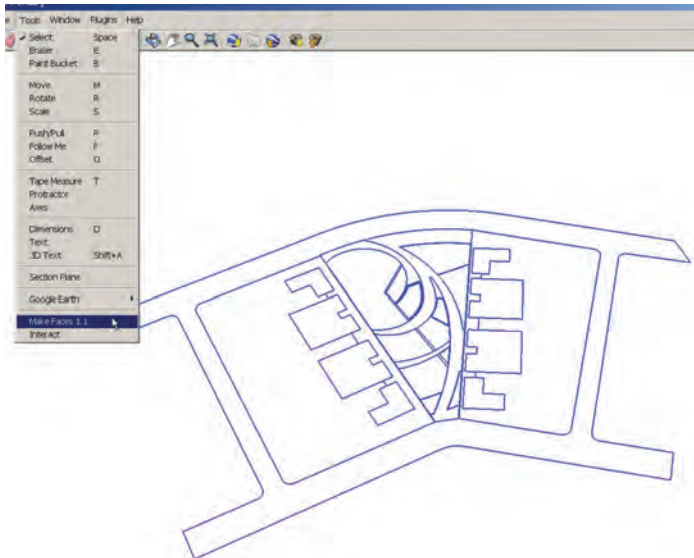

Fig. 18-26: Select all of the edges. From the Tools menu, go to the bottom and select Make Faces.
4. Select all of the edges. Under the Tools menu, select Make Faces. A progress bar will run at the bottom left. Once the extension finishes running, faces will be generated from the edges (Fig. 18-26, Fig. 8-27).